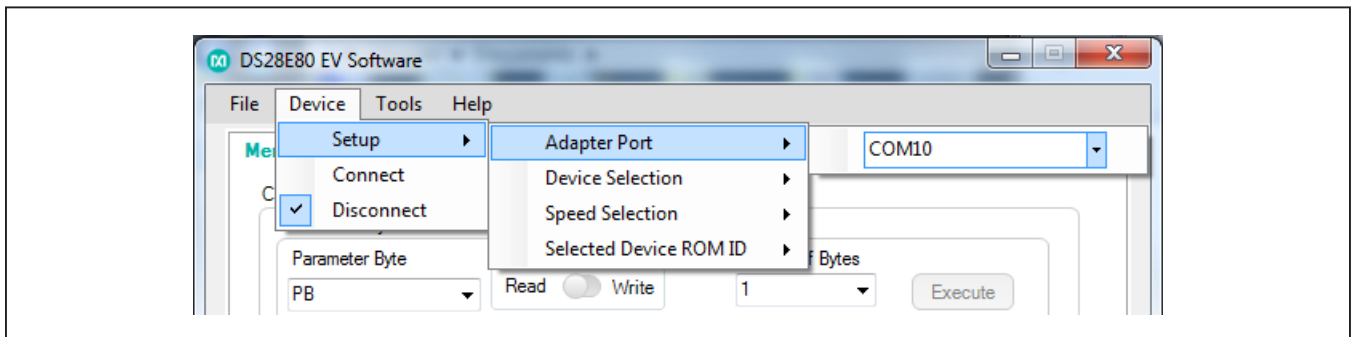

Figure 6. Review/Change Settings
- 9) Under **Device** → **Setup**, the user can review the settings, change the device, port, 1-Wire speed, or review the selected device ROM ID (Figure 6).